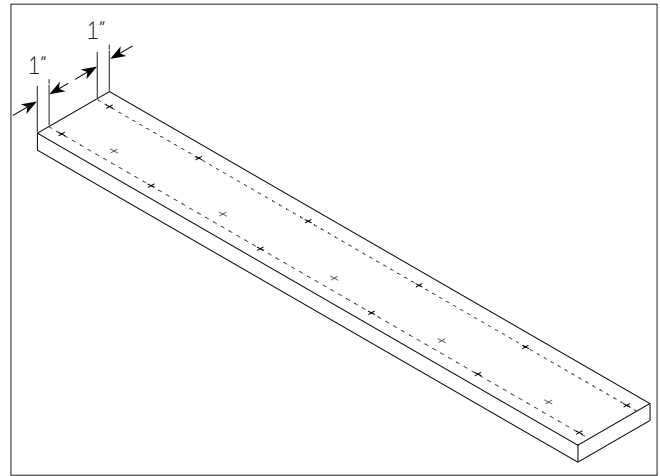

Figure 5
6. Mark the center of the studs onto the header. Mark 1" from the top edge and 1" above the bottom edge (Figure 5).